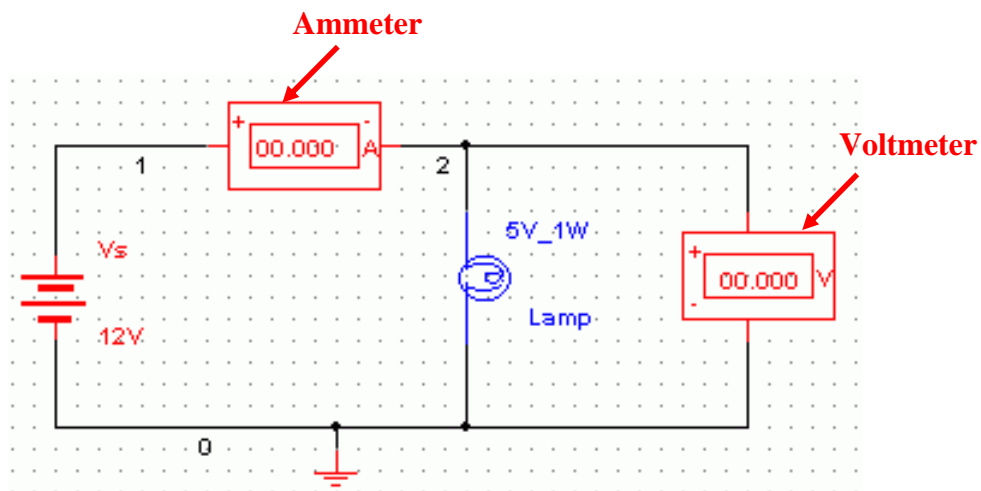

Figure 1: Measuring current and voltage: a lamp connected across a battery
1. Construct the circuit shown in Figure 1 on the *Multisim Electronics Workbench*. Use 5V, 1W lamp for simulation. (In the **Components Toolbar** select the **Indicator** icon; now find **Voltmeter**, **Ammeter** and **Lamp** in this window).
6. Build the circuit of Fig. 1 with hardwired laboratory components. Before switching on the DC power supply set its voltage to 0 volts.